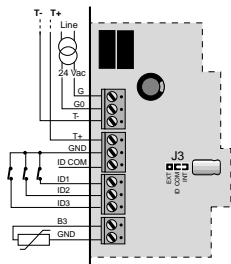
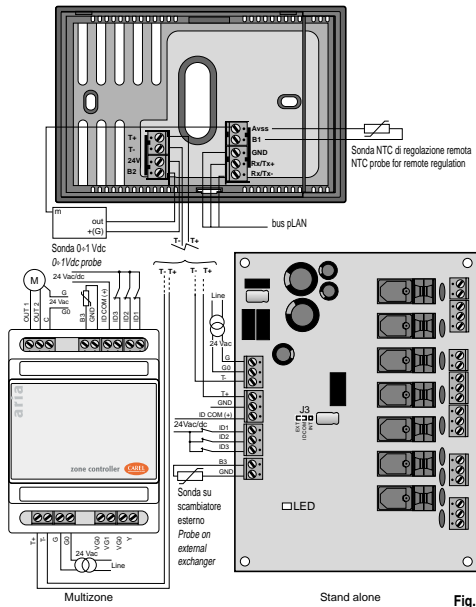

Fig. 3
Fig. 4
- nel collegamento con la scheda di potenza si deve, poi, porre particolare attenzione al rispetto delle polarità, vedi Fig. 4 "schema di collegamento";
- when making the connection to the power board, special attention must be paid to the polarity, see Fig. 4 "Application wiring diagram";
- don't touch the components mounted on the card with bare hands (handle it using the edges only). Jumper J3, which is located in the card, sets how to supply the three 24Vac/Vdc digital inputs (J3 between 1-2: dig. inputs supplied by the card, see figure 3; J3 between 2-3: digital inputs to be supplied externally with 24 Vac/Vdc - see fig. 4).